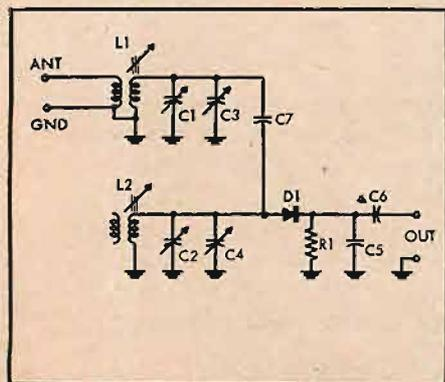

Fig. 1. A simple high fidelity AM tuner.
A. Here is one designed by the author and used successfully by him for some years. It is simple and low-cost but yet possesses excellent fidelity. As can be seen from Fig. 1, this is nothing more than the old-fashioned crystal set with an additional tuned circuit to improve its selectivity. The output of the receiver is quite low, so it must be fed into a high-gain microphone input to obtain sufficient listening level.
Construction: The unit may be built into one of the standard aluminum utility boxes, easily obtainable from any radio supply house. Be sure that coils L_1 and L_2 are shielded from each other, so that coupling can exist only via C_7 . It would be best to use coils which are already shielded; however, the shield can take the form of a strip of metal placed vertically between the two coils, and grounded to the box. Electrically insulate the variable capacitor, C_1 - C_2 , from the box. Run a piece of braid or bus wire from each wiper to separate points on the box. Make all ground connections for L_1 to the point where the wiper for C_1 is grounded; make all other ground connections to the point where the wiper for C_2 is grounded. C_3 and C_4 should be mounted directly across C_1 and C_2 if possible. C_7 is a capacitor made by twisting two pieces of insulated wire together. The gauge of the wire and the thickness of the insulation are not critical. One end of the pair is dead-ended, making sure there is no electrical contact between the wires. The other end of the twisted pair is connected as shown in Fig. 1. The twisted pair should be 6 to 8 inches long at the beginning of the alignment process.